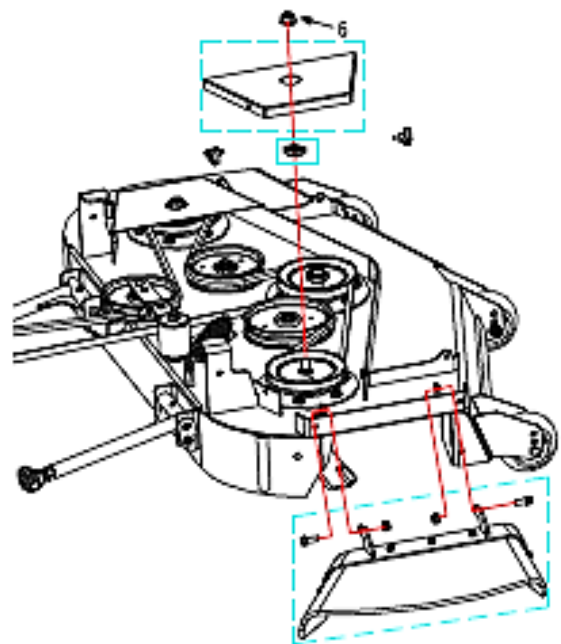

FIG 1
- a) Remove the side discharge chute, bushing, and belt cover (FIG 1) from the mower deck.